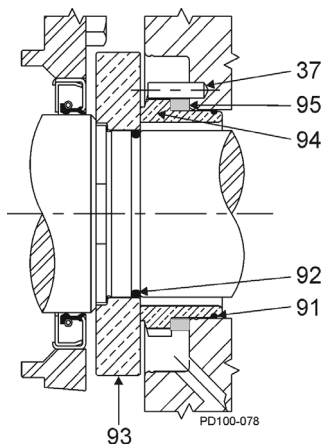
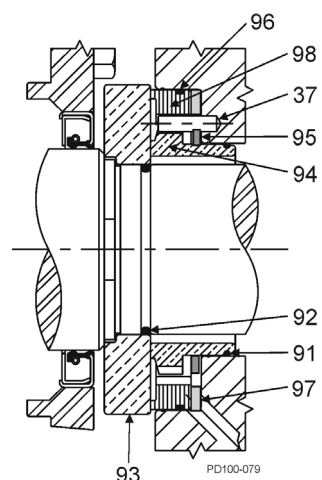
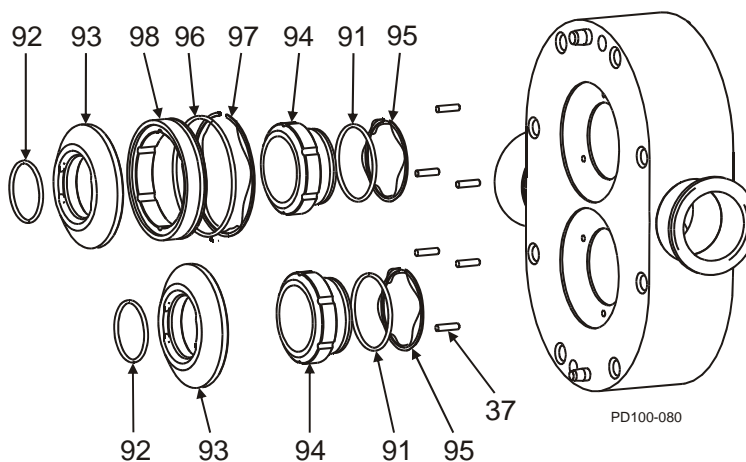

Figure 65 - Single Mechanical Seal
Figure 66 - Double Mechanical Seal
Figure 67 - Single (Bottom) and Double (Top) Mechanical Seal
Table 8: Callout table for Figure 65, Figure 66, and Figure 67
1. Lubricate the shaft o-ring (Figure 65, item 92) with a lubrication compound compatible with the o-ring material and process fluid(s). Place the o-ring on the shaft.
2. Install the rotating seal seat (item 93) on the shaft. Align the drive flats on the seat with the drive flats on the shaft.
4. Install the inner wave spring (item 95) onto the inner seal (item 94).
5. Lubricate the inner seal o-ring (item 91) with a lubrication compound compatible with the o-ring material and process fluid(s). Install the inner seal o-ring into the groove of the inner seal.
7. If a double mechanical seal is used, install the outer wave spring (Figure 66, item 97) in the body and the outer o-ring (item 96) in the outer seal groove (item 98). Place the outer seal in the pump body around the inner seal, aligning the notches in the outer seal with the stop pins in the body.